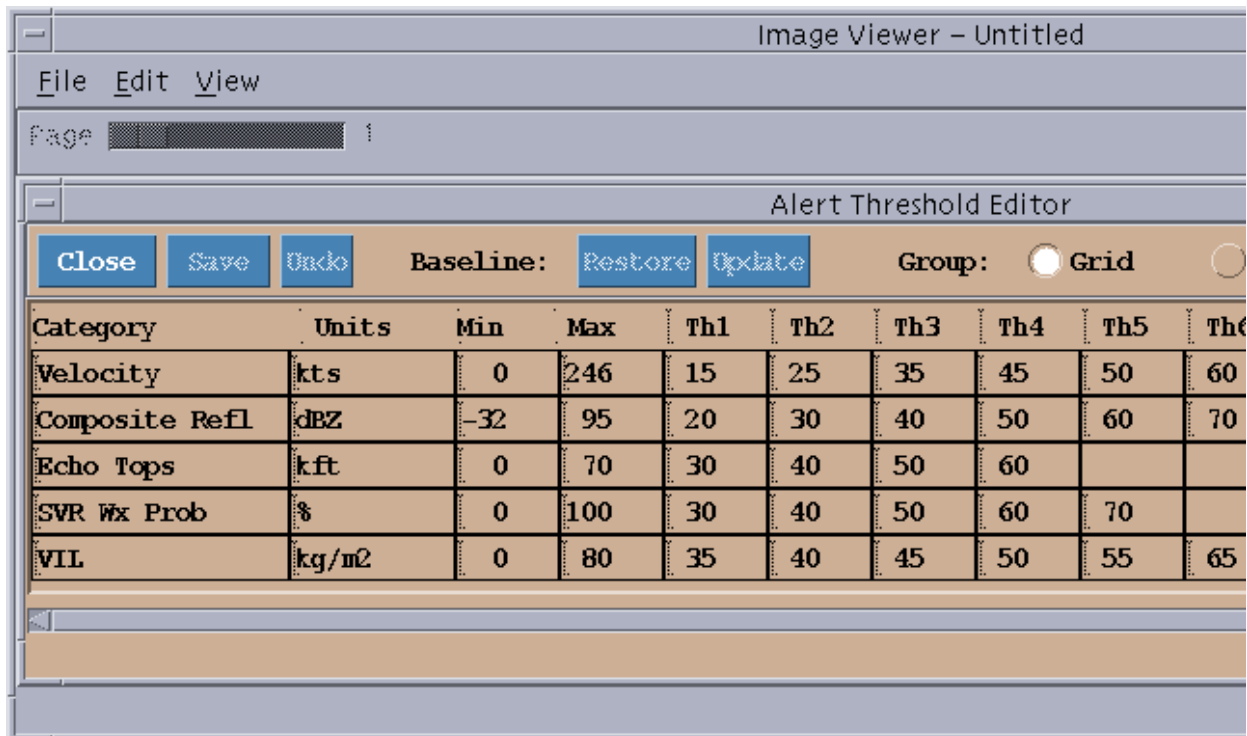

Figure 2 Image Viewer - Untitled Window
7. Click the crosshair pointer inside the window to be captured. The Snapshot window will disappear and then reappear 8 seconds later. The message at the bottom of the Snapshot window will read `Snap succeeded` once the snapping process is complete. The Image Viewer - Untitled window (see Figure 2), displaying the newly snapped image, and an Image Viewer - Palette window will also appear.